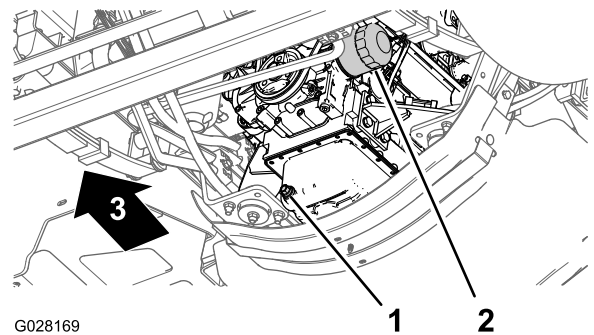

Figure 51
3. Align a drain pan under the engine oil filter (Figure 51).
4. Remove the old oil filter (Figure 51).
8. Install the oil filter to the filter adapter and turn the oil filter clockwise until the rubber gasket contacts the filter adapter, then tighten the filter an additional 1/2 turn (Figure 51).
1. Align a drain pan with a 5.6 L (6 US qt) capacity or greater under the drain plug (Figure 51).
2. Remove the drain plug (Figure 51) and allow the oil to drain completely.